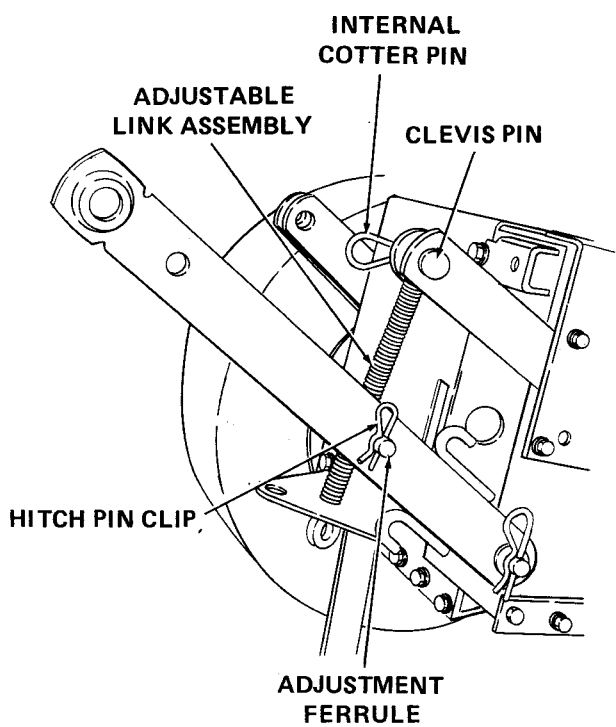

Figure A-20
- b. Secure adjustable link assembly to draft bar assembly by placing hitch pin clip (R) through adjustment ferrule. Refer to Figure A-20.
- c. Place looped end of adjustable link assembly inside external arm of 3-point hitch plate assembly and insert clevis pin (S). Secure with internal cotter pin (O). Refer to Figure A-20.